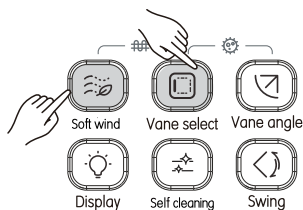

Figure 3.20
- 1) Press and at the same time to start auxiliary heater (see Figure 3.20), and the screen will display the icon ;